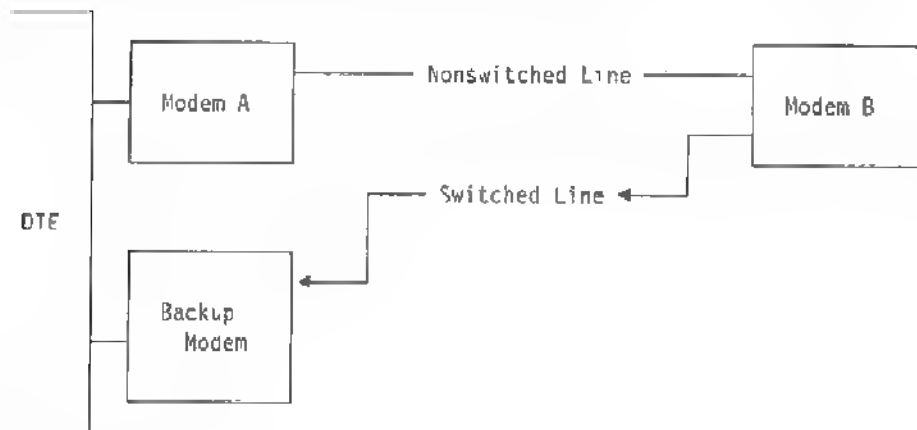

Figure 9-6. Use of an SNBU with a Backup Modem
- b. Configure the remote modem to dial a stored number (using %S1, %S2, or %S3). The number dialed could be an alternate local modem connected to the same DTE (see Figure 9-6). When it, modem B, does not sense a carrier signal, it initiates an SNBU to reconnect to the DTE.